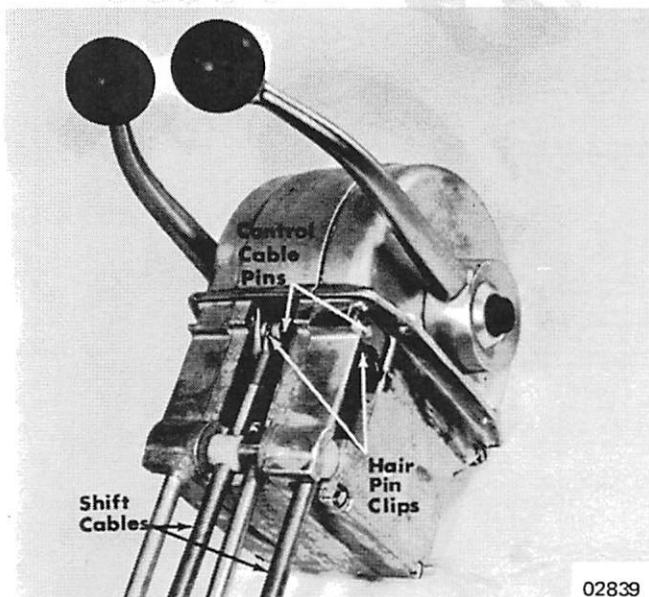

Figure 2. Shift Cables Installed
3. Throttle cables are held in position with cable pin and hair pin clip. (Figure 2)